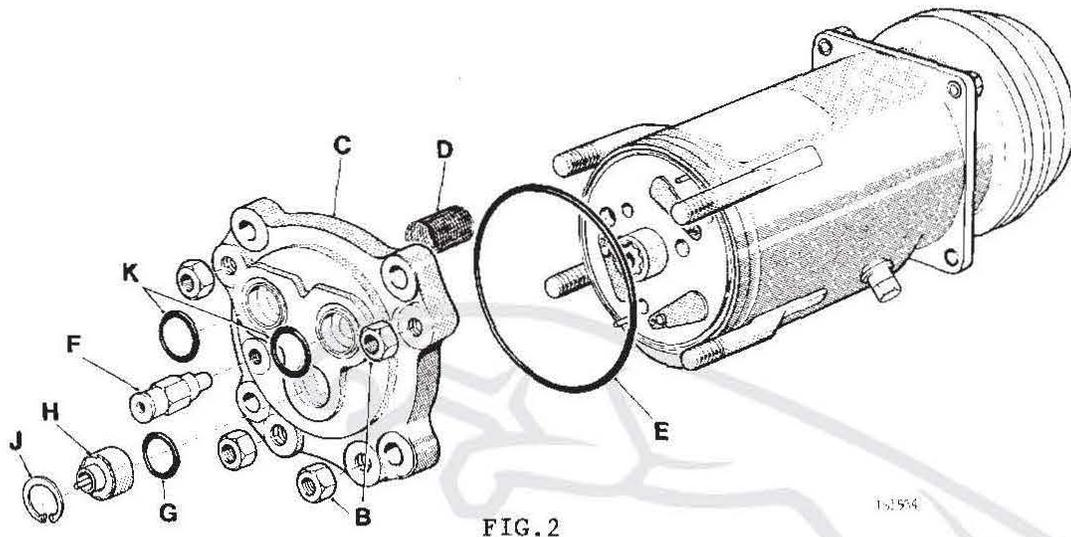

FIG. 2
- 5) Release and remove the compressor rear head securing nuts 4 off (Fig.2 B).
- 6) Displace and remove the compressor rear head (Fig.2 C) and carefully remove filter assembly from rear head (Fig.2 D) and retain. Discard head.
- 7) Remove and discard rear head 'O' ring seal from main body of compressor (Fig.2 E).
- 8) Clean filter (Fig.2 D) and compressor seal face.
- 9) Fit and align new rear head seal (Fig.2 E) to compressor body.
- 10) Fit filter (Fig. 2 D) into new rear head and align head to compressor. Tap rear head lightly until flush with compressor body. Fit and tighten securing nuts to 34 Nm (25 lbs ft).
- 11) Fit and secure new pressure relief valve (Fig.2 F) to rear head, and tighten to 13.5 to 19 Nm max (10-14 lbs ft max).
- 12) Fit the high side low pressure switch 'O' ring (Fig.2 G) supplied in the HSLP kit to the recess in the rear head location.
- 13) Carefully locate the HSLP switch (Fig.2 H) and push until it is correctly seated into the rear head location.
- 14) Fit circlip (Fig.2 J) and ensure it is fully located into the rear head.
- 15) Fit new 'O' rings to rear head high side and low pressure ports (Fig.2 K).